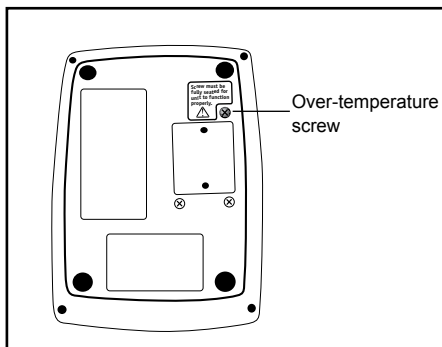

Fig. 3: Ranger over-temperature screw
3. Slowly loosen the over-temperature screw on the bottom of the Ranger unit (see Figure 3). Listen for a slight click as the microswitch opens. **Stop turning the over-temperature screw as soon as you hear the click.** This unit is now in over-temperature test mode, and the temperature output of the unit should begin to rise. When the display reads 43°C, verify that an audible alarm sounds, the alarm light illuminates, and the display alternately flashes "HI" and the plate temperature.